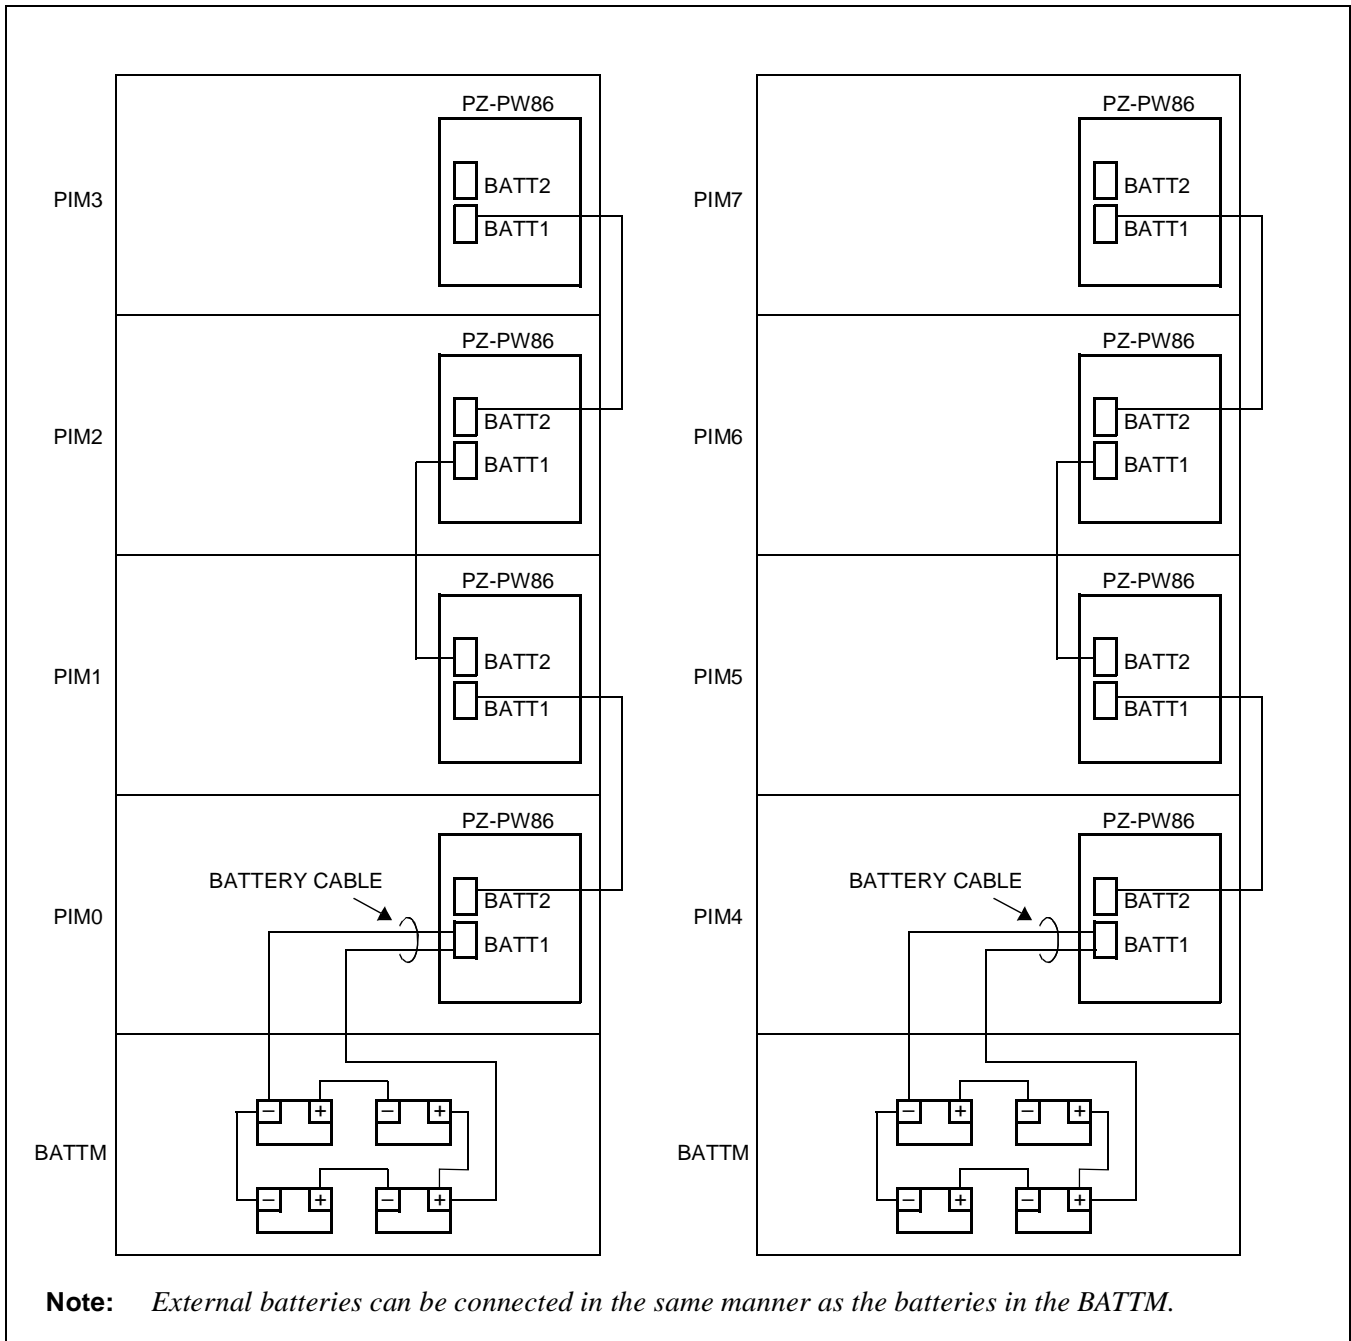

Figure 005-5 Battery Connection in the BATTM for a Multiple PIM Configuration
- (2) Plug the battery cable connector into the BATT1 connector on the PZ-PW86 in PIM0 or PIM4. Figure 005-5 shows an example of battery connection in the BATTM for 8-PIM configuration.